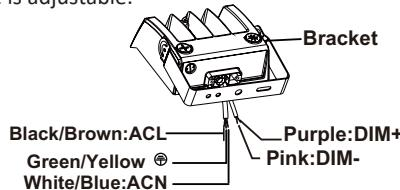

figure 4
- Step 2: Finish the wire connection according to the right mode of connection (pay attention to positive wire, negative wire, and ground wire ).(Figure 4)